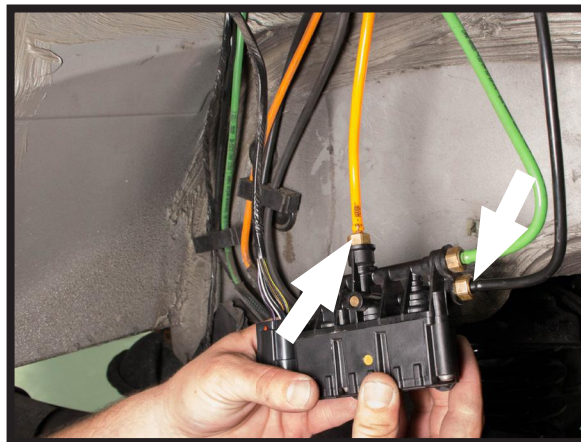

FIGURE 26
2. WITH THE WHEEL WELL REMOVED, LOCATE THE VALVE BLOCK AND AGAIN DRAIN THE AIR FROM THE AIR SPRINGS BY LOOSENING THE ORANGE AND BLACK AIR LINES. (FIGURE 26)